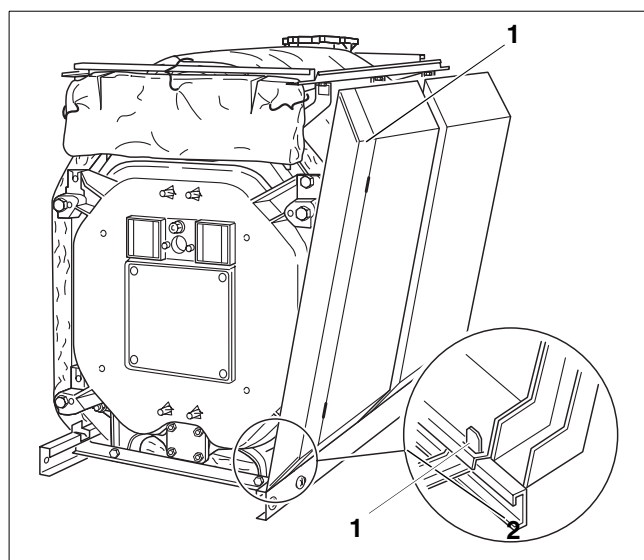

Fig. 49 Slotting on the side panels
- Slot the bottoms of the left- and right-hand front side panels onto the upright tabs on the bottom rails (Fig. 49, **ref. 1**) and slide their tops over the folded lips on the longitudinal rails.